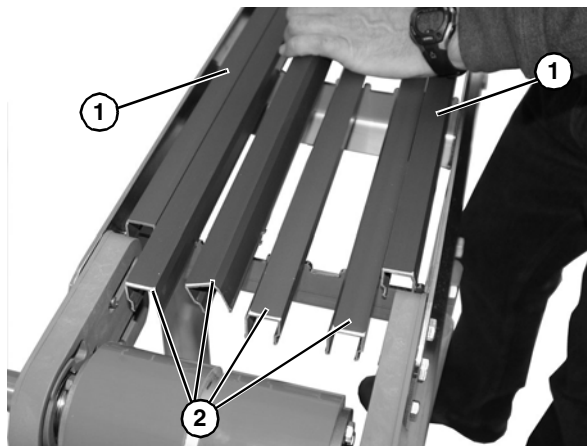
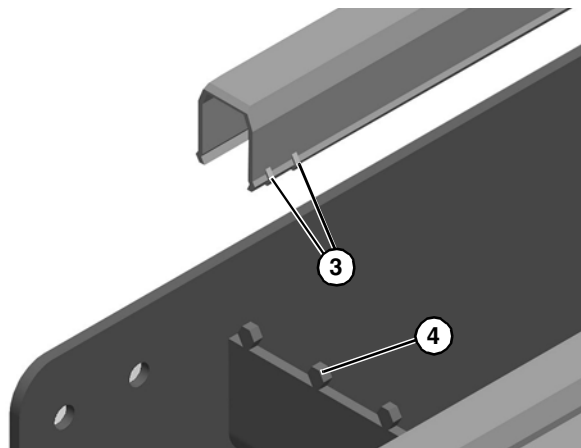

Figure 8
Figure 9
1. Install two outer bed rails (**Figure 8, item 1**) and inner bed rails (**Figure 8, item 2**), making certain that bed rails notched area (**Figure 9, item 3**) cradles frame clip (**Figure 9, item 4**).